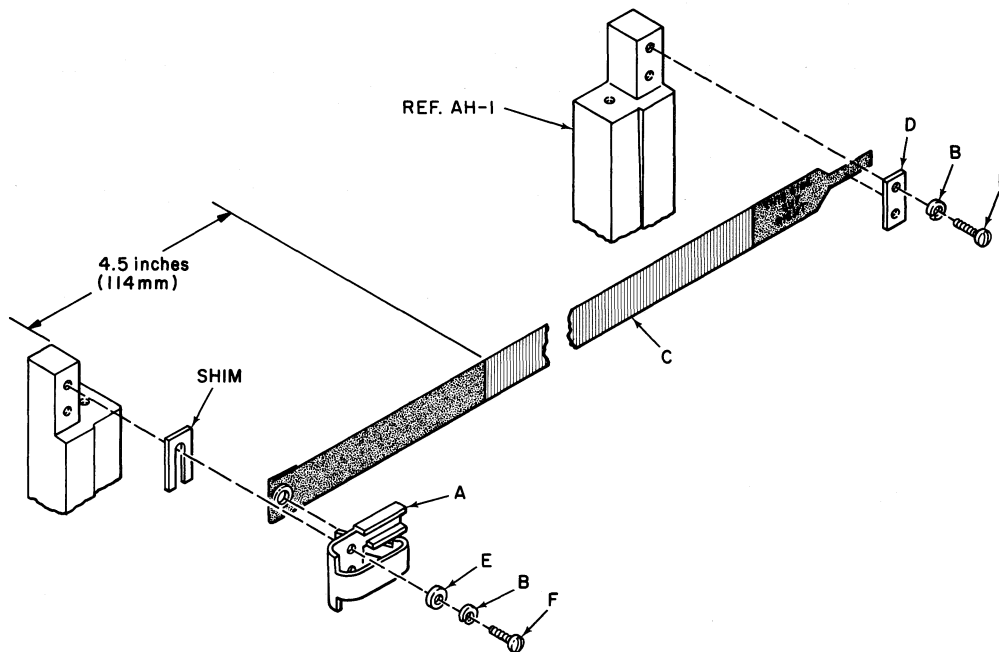

Figure 5-1. TIMING FENCE MOUNTING, MODEL 306
D. Timing Fence Assembly 63060179-1, Flexible (Fig. 5-1, 8-2)
3. To remove spring clasp and clamp, from right and left mounting posts respectively, remove screws, washers (Fig. 8-2/F, B, E) (Some models may have shim/s between post and fence (See Fig. 5-1)).
A. Positioning of Fence (See Fig. 5-1)
- a. Pull tab of fence (C) to the right so that the first window of the fence is located 4.5-in. (114 mm) from right side of left support post. (Note that this dimension adjusts for a nominal 5/8-inch print margin on printing form).
- b. Secure fence under right clamp (D), and when correct dimension has been applied, tighten hardware (B, F).
- a. Set fibre optic head by loosening adjusting screws on top of video amplifier board, and place face of head as close to fence without touching. Tighten screws. Run optic head full length of timing fence insuring that it does not touch fence. (If fence still touches optic head, apply 0.005-in. thick shim/s 63500113 between fence (C) and left post).